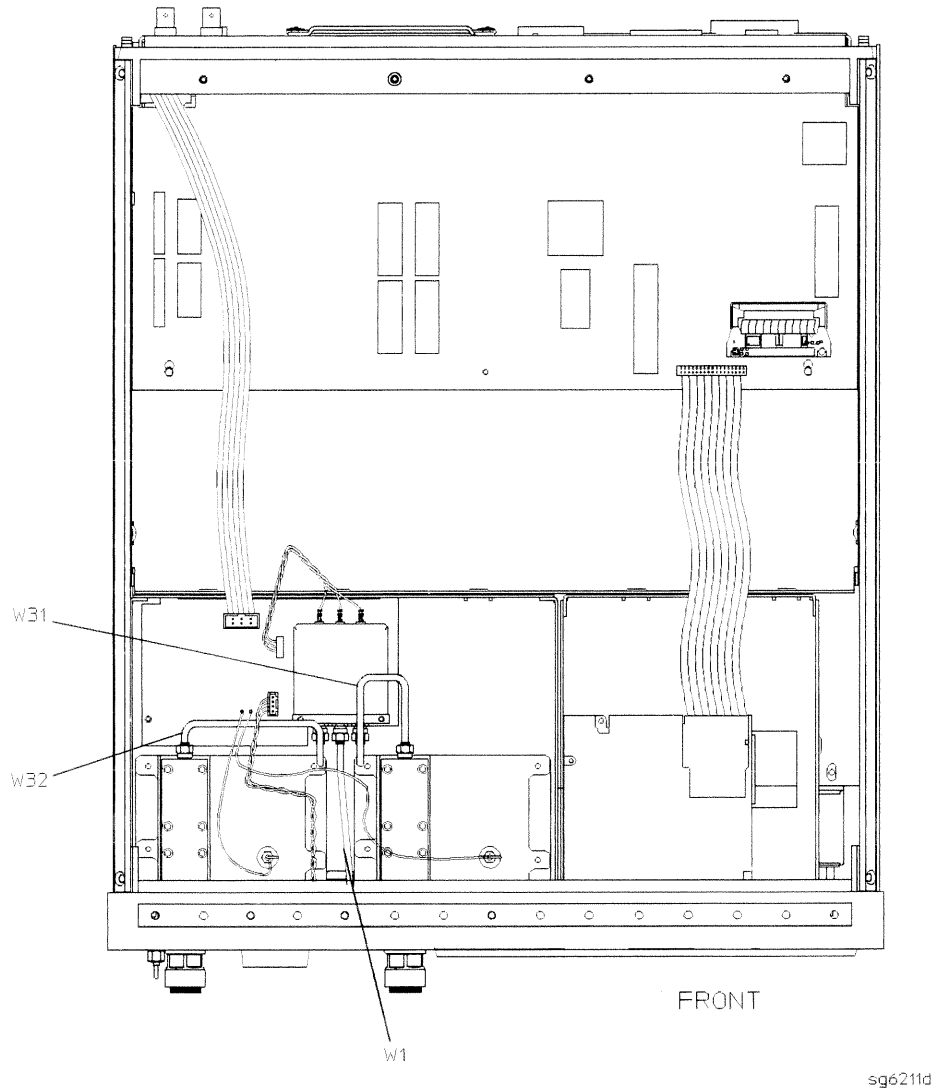

Figure 2-32. HP 8753D Bottom View
2. Remove the instrument bottom cover. Refer to Figure 2-32. Verify that cables W1, W31 and W32 are tight.